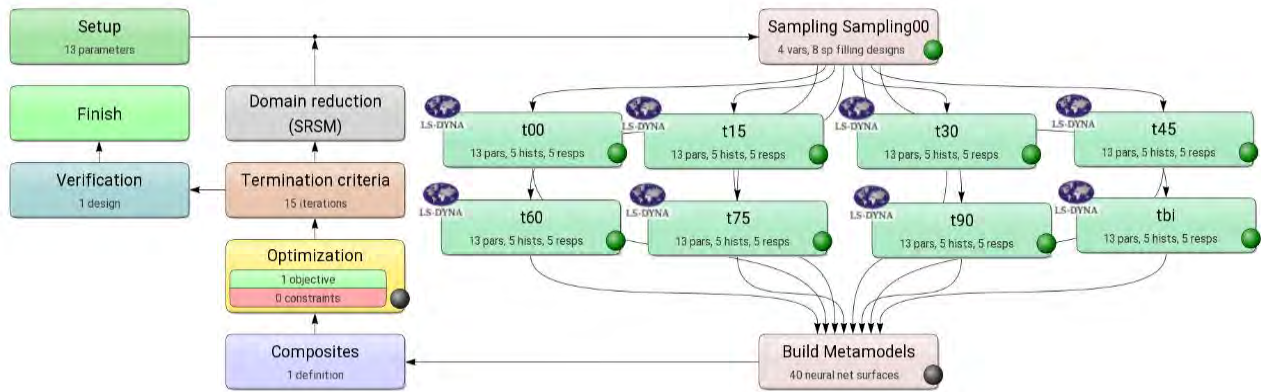

Figure 1 A schematic view of LS-OPT® setup to calibrate anisotropic parameters of material type 263
Figure 1 illustrates the structure of a material parameter identification project built in LS-OPT®. The key steps of setting up this project include: (1) set up the parameters to be identified, and in this case, the anisotropic parameter set (c'_1, c'_2, c'_3, c'_6); (2) set up a series of simulation stages which predicts the material's yield behavior under experimental conditions, and in this case, a total of eight stages, including 7 uniaxial tensile tests, in the direction of 0°, 15°, 30°, 45°, 60°, 75° and 90° respectively, and one balanced bi-axial tensile test, are set up in the project; (3) set up the optimization objective, which is to minimize an error function (termed as composite in LS-OPT®) which measures the differences in yield stresses predicted by the model and observed from experiments. The definition of the error function is given by equation (9):